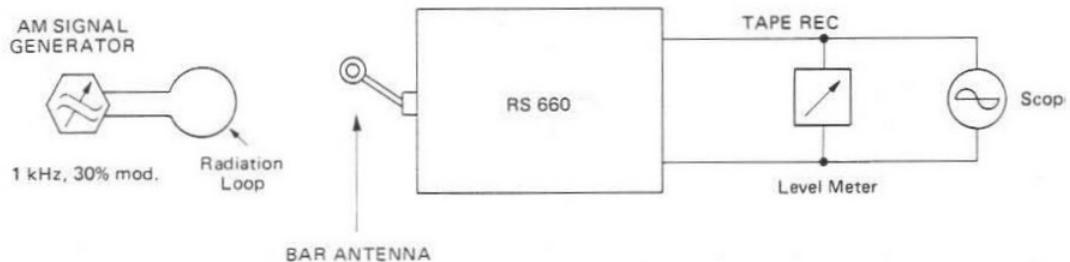

Figure 1. AM FRONT END ALIGNMENT SETUP
1. Connect the test equipment to RS 660 as shown in Figure 1, "AM FRONT END ALIGNMENT SETUP".
The same test-setup as shown in Figure 1 will be used.